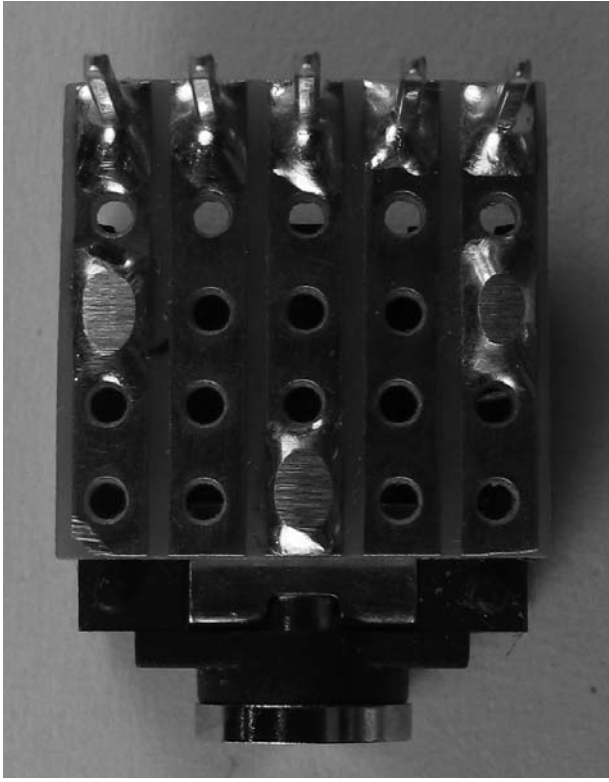

Figure 1-7 Bottom view of the completed mini-stereo jack adapter
5. Insert the stereo jack into the top of the stripboard so that its round opening is facing *away* from the five-pin header and its middle pin is in the end hole of the middle trace of the stripboard (see Figure 1-7).
6. Flip the board and stereo jack upside-down again, place it on a flat surface, and solder the three pins of the stereo jack to the board. Because the adapter is going to be inserted into a breadboard, it's a good idea to snip the protruding pins of the jack as short as possible and file them smooth (again, refer to Figure 1-7).